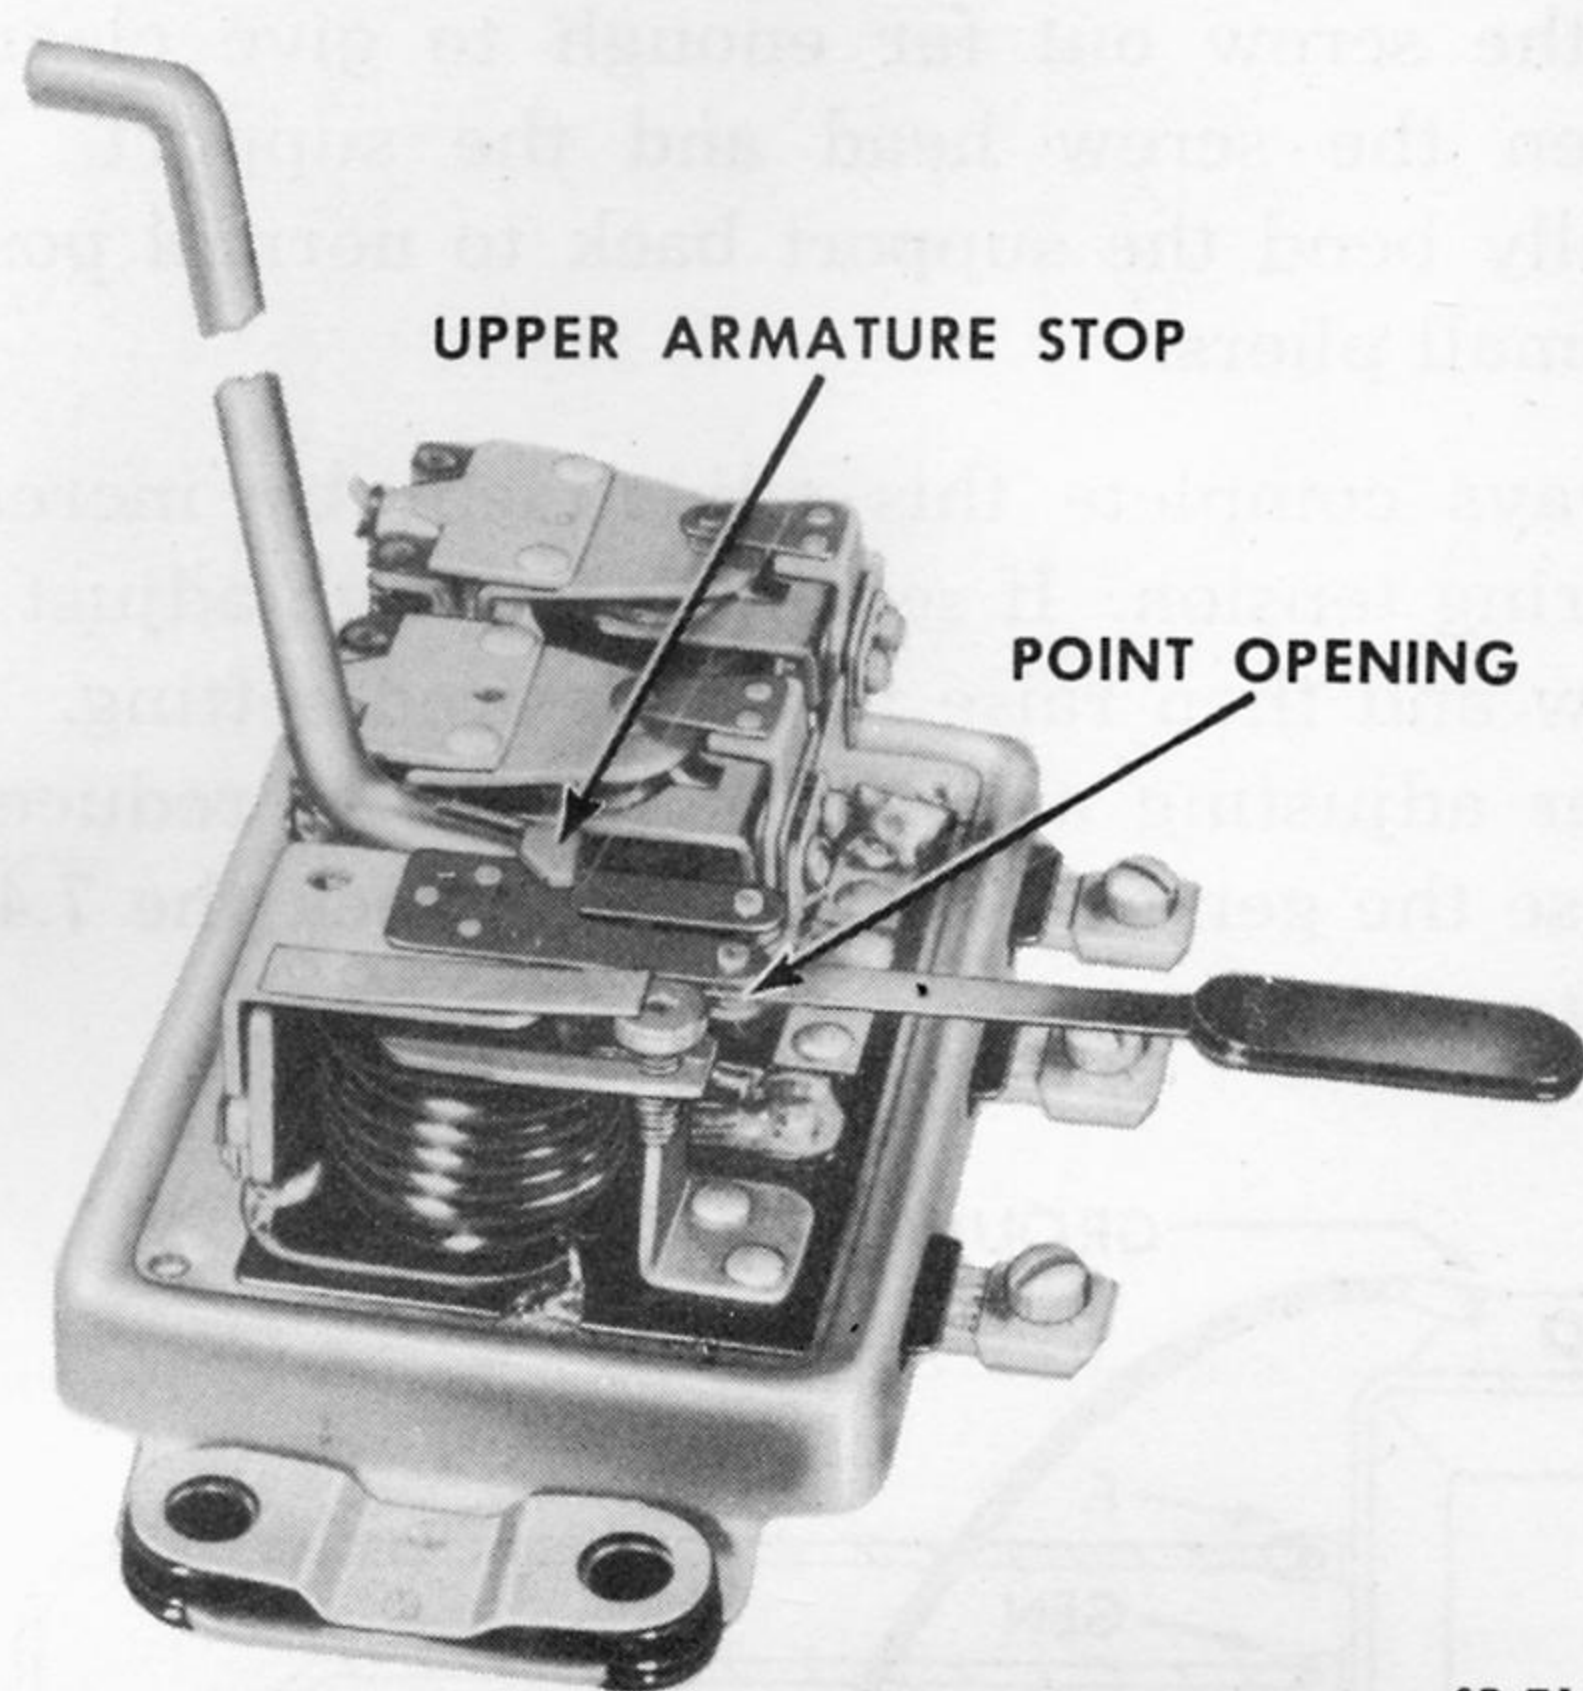

Fig. 402—Adjusting Kaiser Cut-Out Relay Contact Point Gap
(2) **Point Opening.** The gap between the free contacts should be .020 inch. Adjust by bending the upper armature stop (Fig. 402).